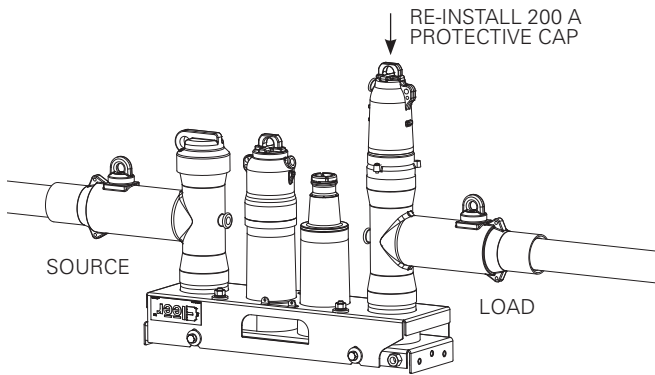

Figure 6. Re-install 200 A protective cap
- After circuit has been verified as de-energized, using a clampstick, re-install 200 A protective cap on loadbreak reducing tap plug. See **Figure 6**.